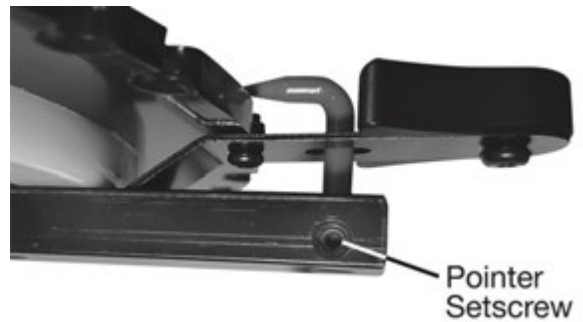

Figure 8-3B
4. After squaring, if the red pointer (C) is not pointing at 0°, loosen the pointer setscrew (see Figure 8-3B), rotate the pointer to 0°, and retighten the pointer setscrew.